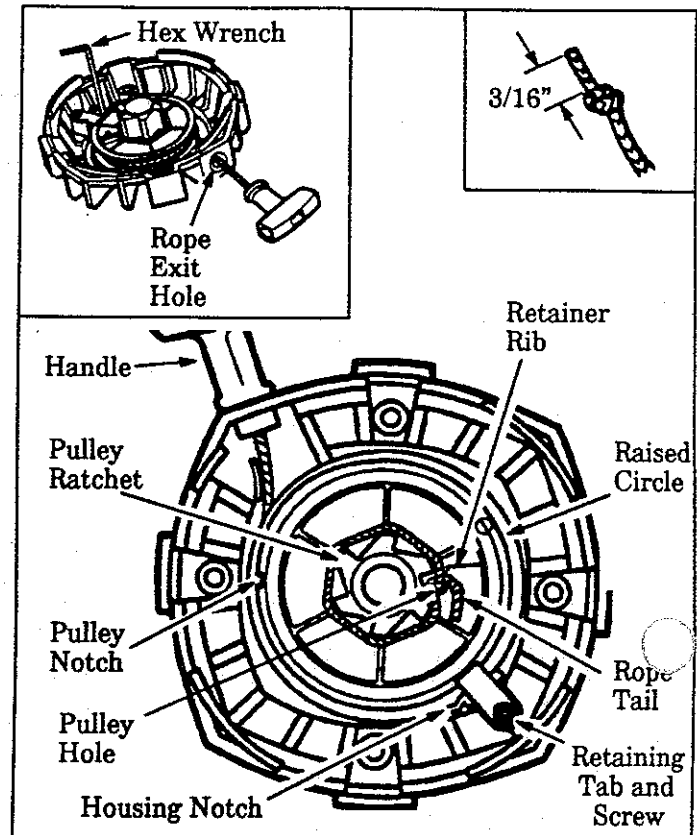

Figure 25
8. Untie Rope around the Pulley Ratchet (Figure 25) and pull the Rope out of the Pulley Housing.
9. Hold Pulley Housing as shown in Figure 25. Hand turn the Pulley clockwise → as far as it will go.
- Then, turn the Pulley counterclockwise ← until the Pulley Notch is aligned with the Housing Notch next to the Retaining Tab and Screw. Figure 25.
11. Insert the small hex wrench into the hole formed by the Notches to hold the Pulley in position. Figure 25 (inset-upper left).
15. Insert one end of the Rope through the Handle and secure with a knot. Leave a 3/16" pigtail behind the knot. Figure 25 (inset-upper right).
16. Wrap the Rope counterclockwise  around the Pulley Ratchet and tuck loose end under the Rope at the Pulley Hole. Figure 25. Leave a 1/4 to 3/8 inch tail laying flat on top of the Pulley between the Retainer Rib and the Retainer Post as shown in Figure 25. The rope tail *must not* extend beyond the Raised Circle on the Pulley to prevent interference with the Retaining Tab. Figure 25.
17. Insert the other end of the Rope through the Rope Exit Hole into the inside of the Housing, into the Pulley and up through the Pulley Hole. Figure 25.